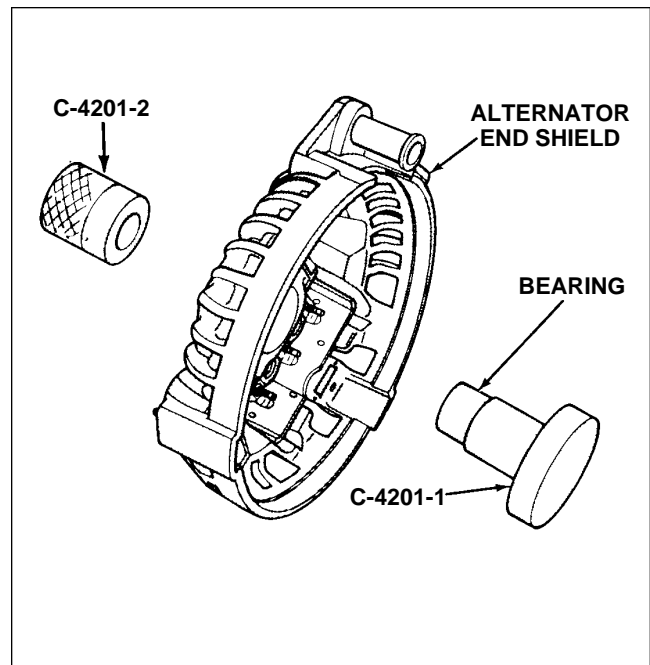

Figure 11-33. Installation of Rectifier End Shield Bearing
- b. Position rectifier end shield bearing on base of tool C-4201. Place alternator end shield atop bearing and properly align. With top part of tool C-4201 on end shield, press into place until it bottoms against it. (Refer to Figure 11-33.)